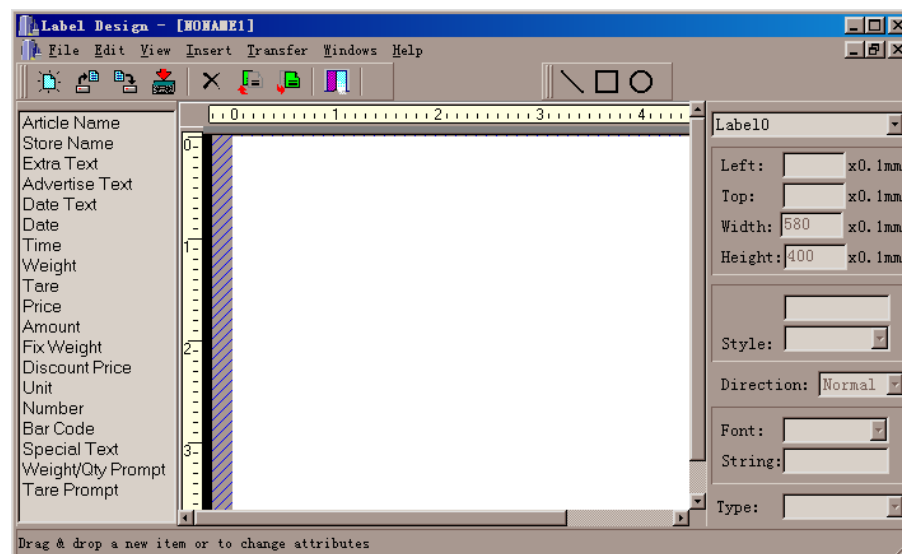

Fig. 7-5
- ☞ When create a new label or open an existing label , will enter edit state shown as fig. 7-5.